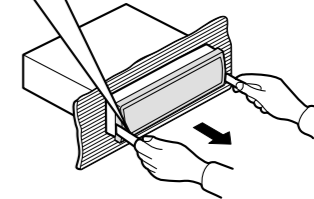

Fig. 7
**Removing the unit (Fig. 6) (Fig. 7)**